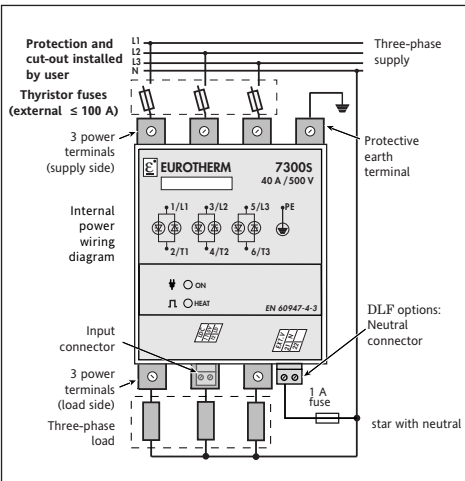

Figure 2-9 Connecting a three-phase load using Star with Neutral configuration
- star with neutral (4 connection wires, code 4S), figure 2-9